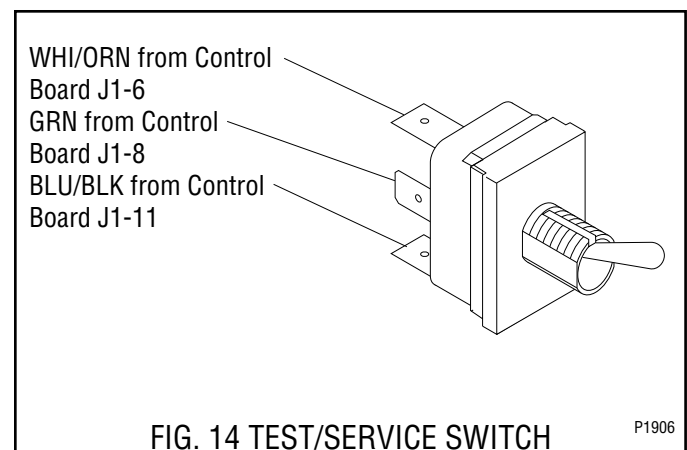

FIG. 14 TEST/SERVICE SWITCH
8. Refer to Fig. 14 when connecting the wires to the new switch.